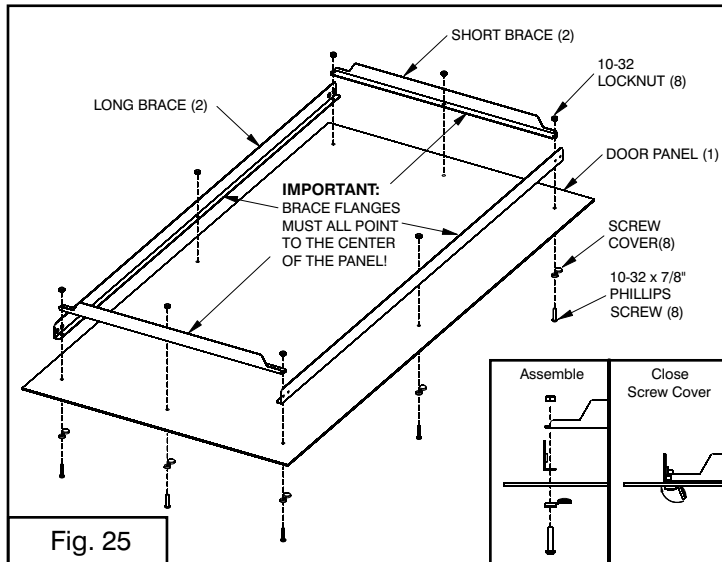

Fig. 25
The door must be assembled down-stairs. Locate the door, door braces, and fasteners shown in Fig. 25. Insert each screw through a screw cover then through the panel, then through the door braces (Fig. 25 and inset).
**IMPORTANT: All door braces must be oriented exactly as shown in Fig. 25 with the horizontal flanges all**
**pointing toward the center of the panel.** Fasten each screw with a locknut. Tighten all 8 screws, then close the screw covers, Make sure they snap completely shut (Fig. 25 inset).